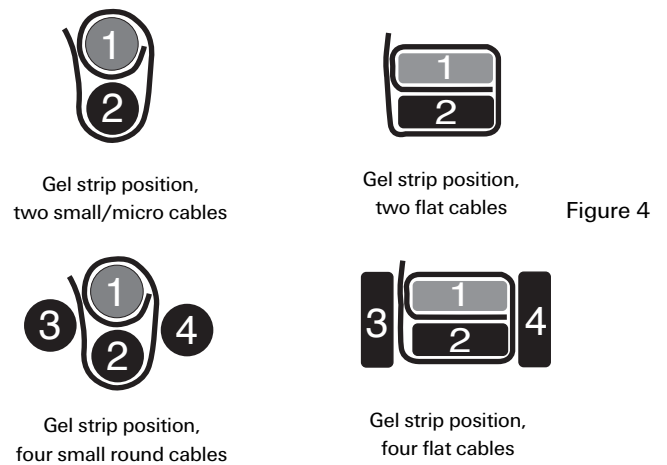

Figure 4
4. For three or four cables, position the remaining two cable(s) (numbered 3 and 4 in the illustration) alongside the first two cables as indicated in Figure 4. Cables 3 and 4 are **not** wrapped with the gel strip; however, they are wrapped with green felt tape, as indicated in Figure 2.